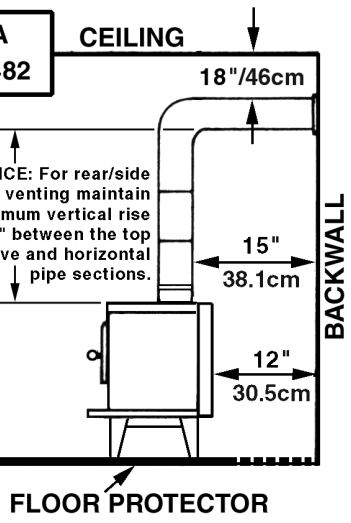

*Fig. 7 – Top View
1. The tapered end of the connector stovepipe fits into the stove flue collar. Secure with three sheet metal screws. Notice: For side or rear venting, you must have a minimum 24"/61cm vertical rise from top of stove to horizontal pipe sections (see fig. 7).